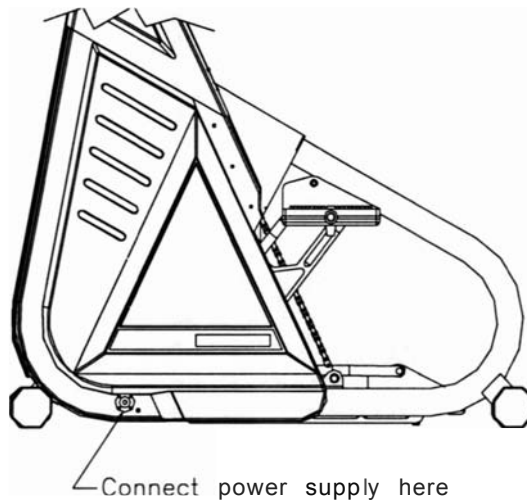

Figure 4: DC Power Connector
4. If you have a 4600/4400 CL, skip to step 9. If you have a 4600/44001 4200 PT, connect the DC cable of the power supply to the connector near the bottom of the left side cover (see Figure 4).